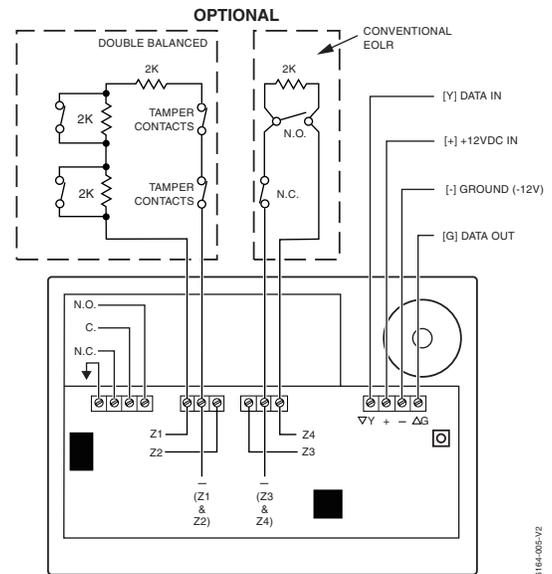

Figure 3. Wiring Details
4. Connect the power/data wires to the four screw terminals on the keypad's PC board marked as shown in Figure 3 and as follows:
5. Connect the wires for the four 2K EOLR zones to the six screw terminals on keypad PC board as shown in Figure 3 and as follows:
6. Connect the zone contact's wires (door strike, etc.) to the three relay terminals marked NC, NO, and C as shown in Figure 3 and as follows:
Either conventional EOL resistor supervised zones or double-balanced zones (see Fig. 3) may be selected (default = conventional EOLR). Consult the panel's installation guide for proper zone type selection. Use the [*] key to advance to the Tamper option.